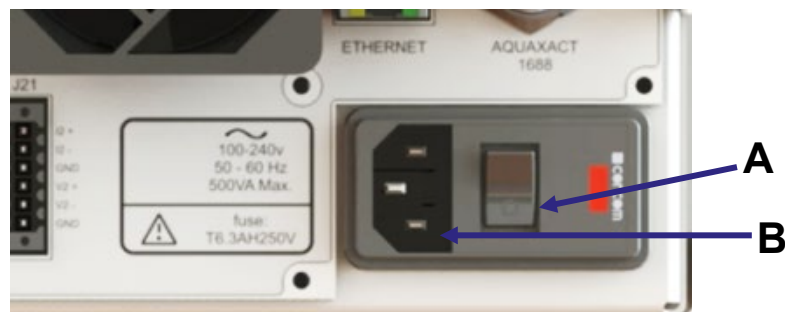

Figure 3-5: Power switch (A) and electrical supply socket (B) on rear of analyzer
1. Turn the Power Switch on the back of the unit to OFF: press the “O” on the On/Off switch shown in Figure 3-5 A.
2. Fit the IEC plug on the end of the electrical supply cable provided to the electrical supply socket on the rear of the analyzer (Figure 3-5 B).